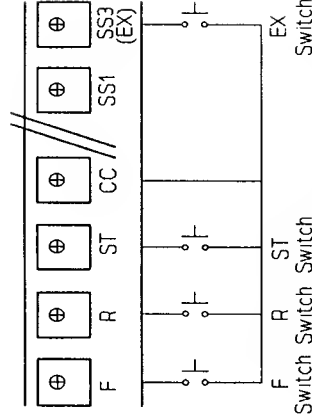

Figure 11.2 Forward, Reverse, and Emergency Stop Switches
1. Connect an "emergency stop" switch between EX-CC on the control circuit terminal block as shown in Figure 11.2